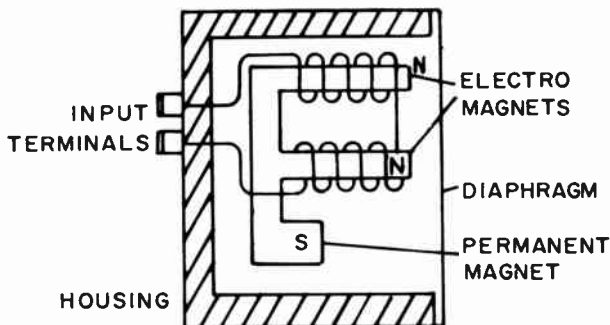

FIG. 9-30. THE RADIO HEADPHONE.
**THE RADIO HEADPHONE.** The radio headphone, or "telephone receiver," is the simplest type of audio reproducer. It consists basically of a coil of wire wound over one end of a permanent magnet. The earphone housing separates a thin metal diaphragm from the electro-magnets by a few thousandths of an inch. See Fig. 9-30. The impedance of the headphone coils ranges from 3 to 2000 ohms.